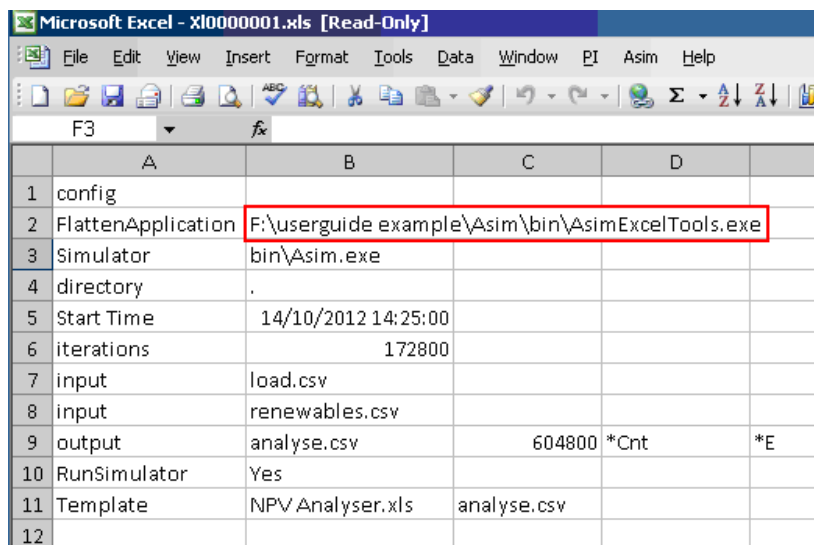

Figure 4: Absolute path to AsimExcelTools.exe
- The cell adjacent FlattenApplication will now have an absolute path reference to AsimExcelTools.exe shown in Figure 4 and the path name to AsimExcelTools.exe is now the full path name, for example: F:\userguide example\Asim\bin\AsimExcelTools.exe